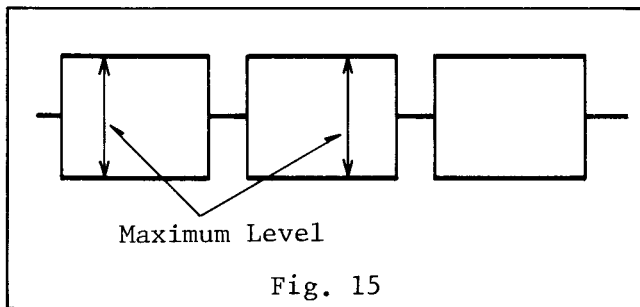

Fig. 15
3. Adjust Focus Control VR604 to the maximum signal level as shown in Fig. 15.